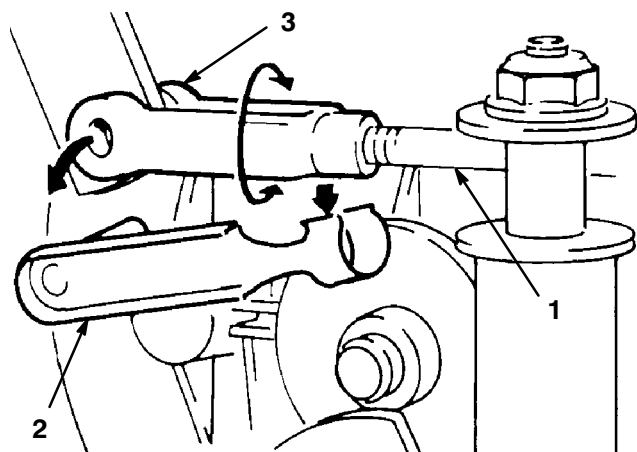

**Figure 25**
7. Loosen the capscrews securing (2) engine pulley belt guides and move guides away from pulley. Remove the deck drive belt from engine pulley (Fig. 25).
9. Remove (2) screws securing belt guide to mower housing and remove belt guide. Remove belt from pulley.
12. Pushing out on belt (removing slack), as shown in fig. 25, check clearance between outside of belt and inside of idler pulley (Fig. 25). Clearance should be approximately 1/8 inch (3 mm).